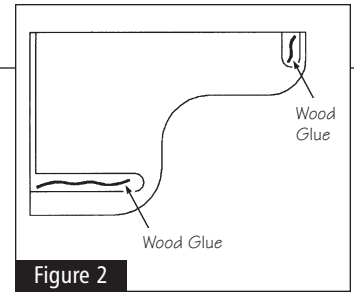
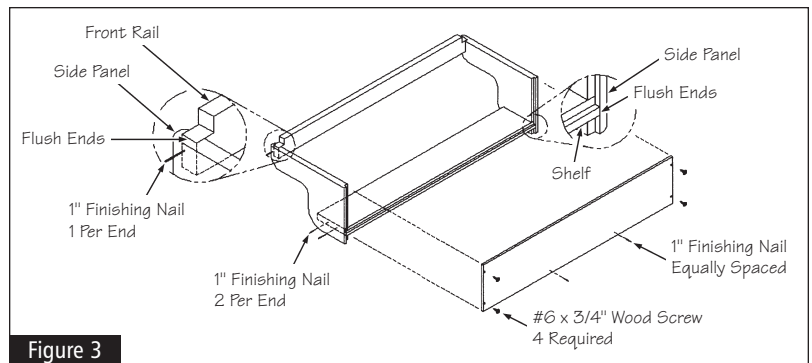

Figure 2
Figure 3
**1** Apply wood glue in the long groove of a side panel (See Figure 2) and place the shelf in the groove. Be sure that the groove in the rear of the shelf is flush with the groove in the rear of the side panel. Secure the shelf with two 1" finishing nails (provided) being careful not to mar the surfaces of the wood. See Figure 3. Wipe away any excess glue. Repeat this procedure for the opposite end.
**2** Apply wood glue in the short groove of a side panel (see Figure 2) and place the front rail in the groove. Be sure that the notch in the front rail is flush with the top of the side panel. Secure front rail with one 1" finishing nail (provided), being careful not to mar the surfaces of the wood. See Figure 3. Wipe away any excess glue. Repeat this procedure for the opposite end.
**4** Remove the back and apply wood glue to the side panels and shelf grooves that will contact the back. Position back into place and secure with two #6 x 3/4" wood screws into each side panel. Using remaining 1" finishing nails, evenly spaced, secure the back to the shelf. See Figure 3. Wipe away any excess glue. Upon following directions for suggested drying time for the specific glue used, the unit will be ready for installation.